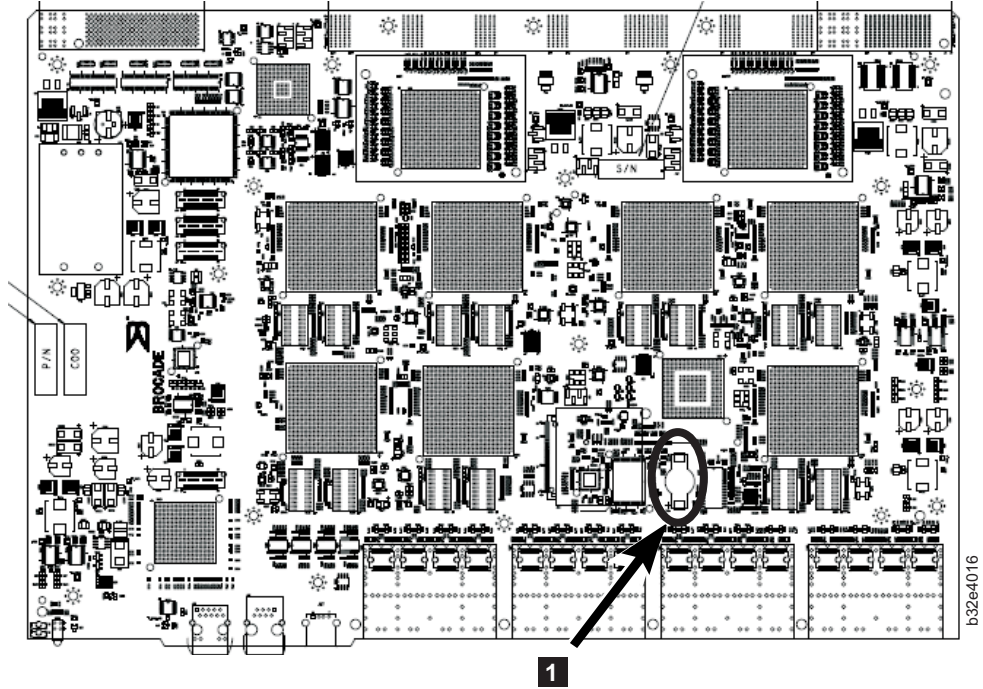

Figure 53. Encryption blade battery location
7. For the optional FS8-18 encryption blade, go to the BC1 location (see **1** in Figure 53 on page 138) on the main board and remove the BR1225 battery.